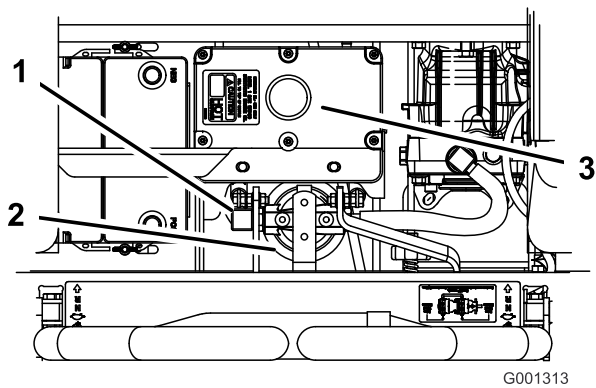

Figure 88
- Remove the right hydraulic line that comes into the adapter (Figure 88).
- Install the right hydraulic line to the adapter (Figure 88).